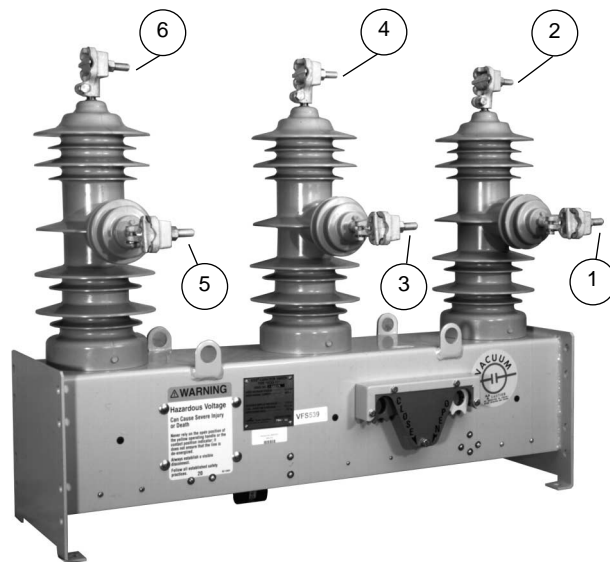

Figure 5.
4. Connect high voltage lines to switch bushing terminals. Refer to Figure 5 for terminal identification.
3. Connect terminals 2, 4, and 6 (see Figure 5) together.
3. Connect and ground terminals 1, 3, and 5 (see Figure 5).